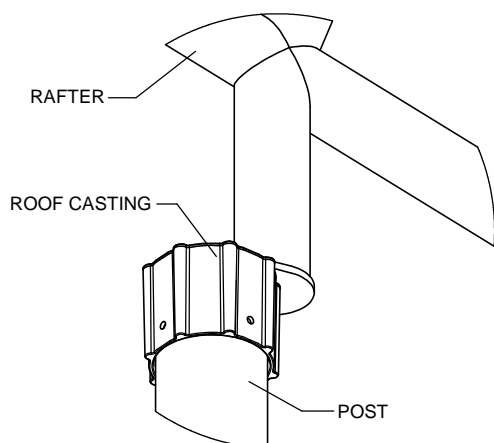
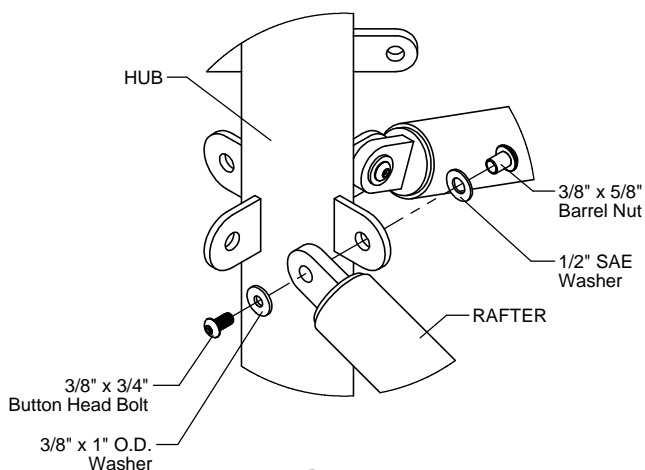

Figure 1.5
Figure 1.4
Attach (2) Rafters to Hub as shown in Figure 1.4.
Place assembled Canopy Rafters and Hub on posts as shown in Figure 1.5. (See Note B)
Place remaining Rafters on posts as shown in Figure 1.5 and attach to Hub as shown in Figure 1.4. (See Note A)